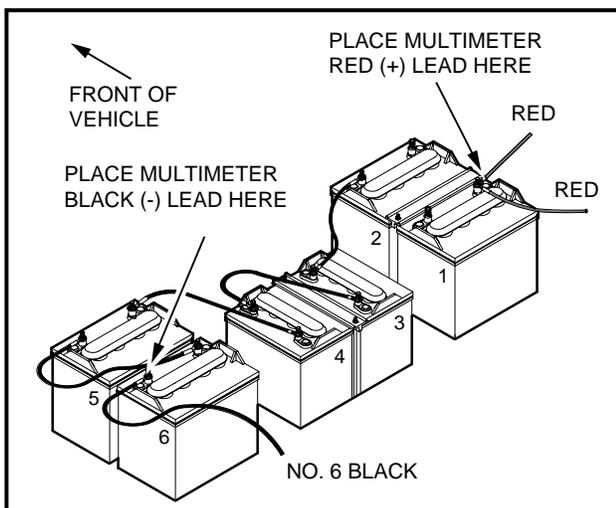
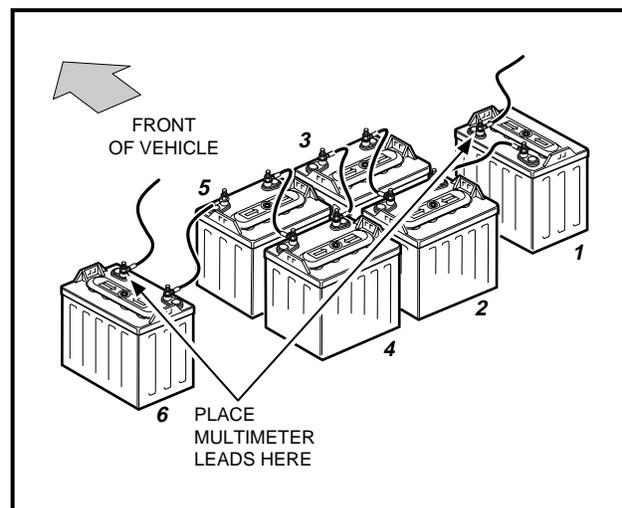

Figure 14-9 Battery Pack - Short Frame Vehicle
Figure 14-10 Battery Pack - Long Frame Vehicle
- 3.1. Verify the 10 gauge red wire from the charger receptacle is connected to the positive post of battery No. 1 (**Figure 14-9, Page 14-12 and Figure 14-10, Page 14-12**).
4. With a multimeter set to 200 volts DC, measure the voltage of the battery pack between the positive post of battery No. 1 and the negative post of battery No. 6 (**Figure 14-9, Page 14-12 or Figure 14-10, Page 14-12**). Normal no-load voltage will be 50 to 52 volts for fully charged batteries. The voltage of the battery pack must be over 32 volts DC to allow the onboard computer to close the charger relay. If battery pack voltage is too low to start charger, **see Section 13—Batteries, Charging Battery Pack With Low Voltage**.